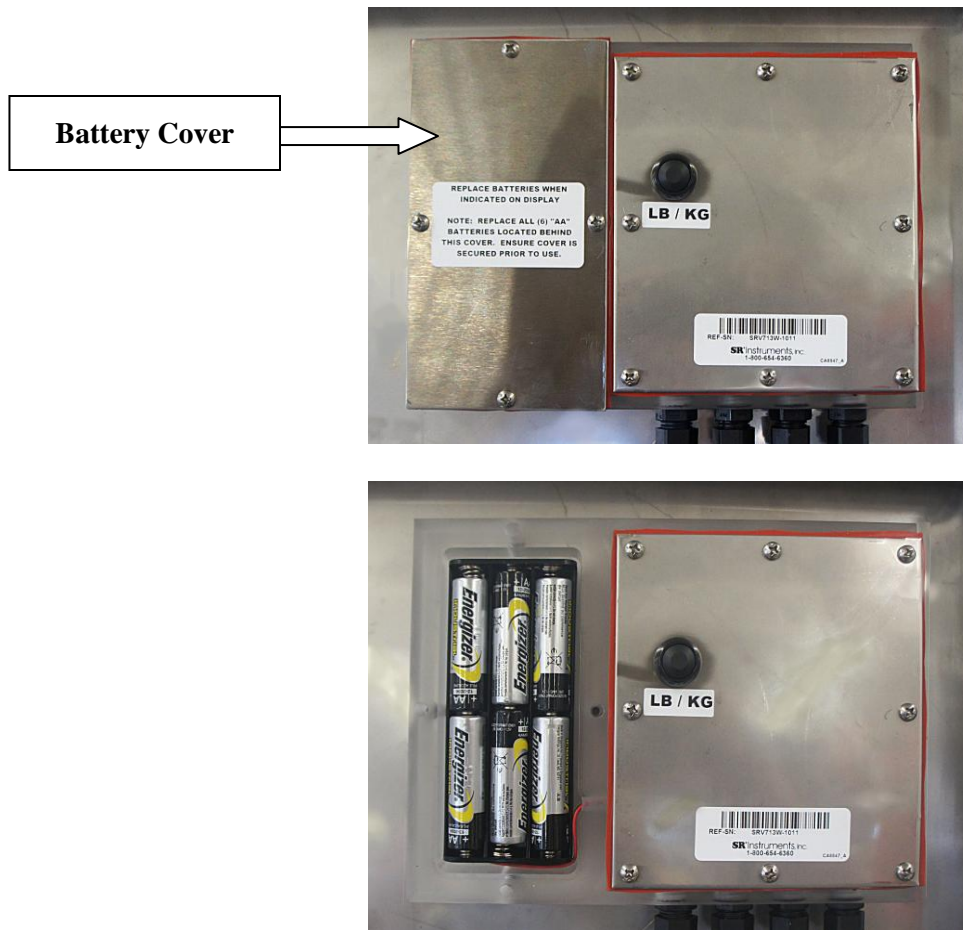

Figure 3: Battery Replacement
- STEP 2:** Remove the two (2) screws holding the display housing to the platform
- STEP 3:** Pull the display out from under the platform and remove the eight (8) screws from the display box cover pictured in Figure 3.